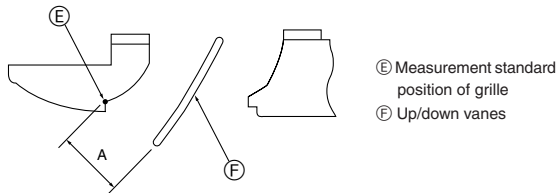

Fig. 8-10
- ① Turn off the main power switch.
- ② Disconnect the connector for the vane motor of the vent that you want to lock. (While pressing the button, remove the connector in the direction indicated by the arrow as shown in the diagram.) After removing the connector, insulate it with tape.
- ③ To adjust the desired airflow direction, slowly move the up/down vanes within the specified range. (Fig.8-10)